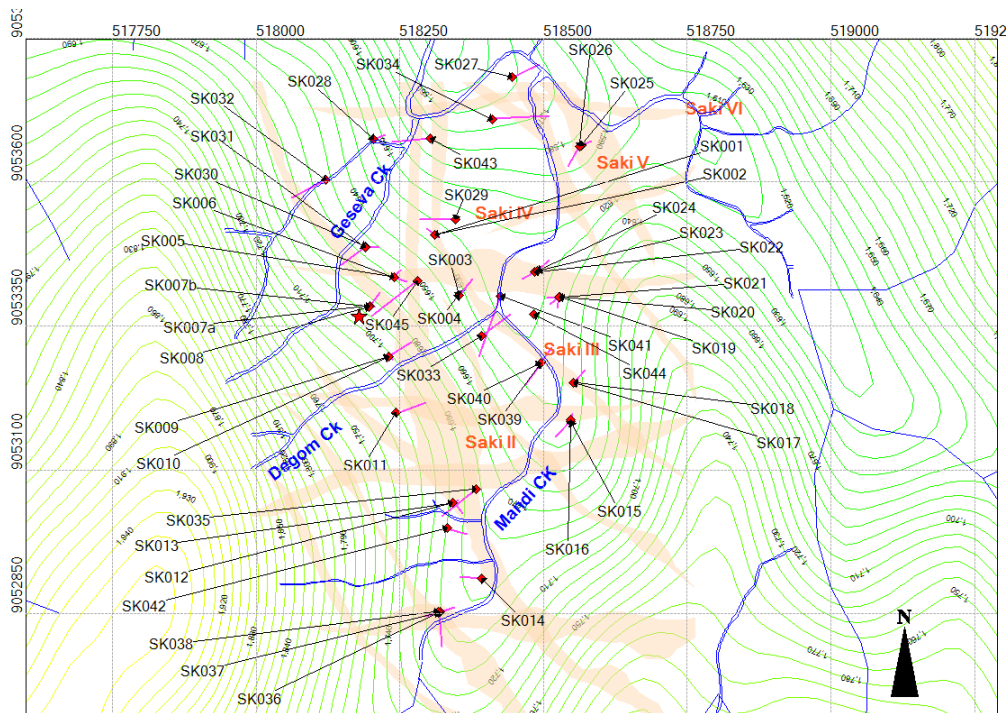

Figure 5: Drill collar locations for SK001 to SK045 and Historically Interpreted Veins
Historically mapped gold-bearing veins at Saki are predominated by NNW-SSE and E-W trending fissure veins. At the Soju-Yava prospect 1km to the northeast of Saki, veins generally trend NW-SE to NNW-SSE with E-W trending veins at places (Figure 2). Historical drilling at Saki (Figure 5) targeted some of the 54 trenches that were anomalous in gold, some up to 6m wide, with best surface grades of **0.5m @ 535 g/t Au** and **1.0 m @ 55.69 g/t Au** (refer to ASX Announcement dated 7 October 2019). Many of the existing gold anomalous trenches are yet to be drill tested and will be followed-up in a future drilling program.
Elements targeted in this study include gold (Au), silver (Ag), lead (Pb), antimony (Sb), copper (Cu), zinc (Zn) and mercury (Hg). Arsenic (As) is included for drill core data analysis from holes SK001 to SK045 (Figure 5), excluding SK044 which was abandoned. The geochemical analysis found a positive association of gold with silver (Ag) and antimony (Sb) with implied base metal sulphides formed at depth in a porphyry copper-gold system at depth. A significant system of veining has been interpreted from the analysis (Figures 3 and 4).
4. A total of 1,157 drill core data in 44 drill holes for Saki were processed for analysis (Figure 5). Comparing all drill core samples, the correlation between gold with silver remains high with both having a significant correlation to Antimony (Sb), Copper (Cu) and Mercury (Hg) and a positive relationship with lead (Pb) and Zinc (Zn).
The newly interpreted vein anomaly map for Saki (Figure 2) has been proposed by combining geochemical assay attributes, soil assay grid maps and the historical vein anomaly map shown in Figure 5 below.